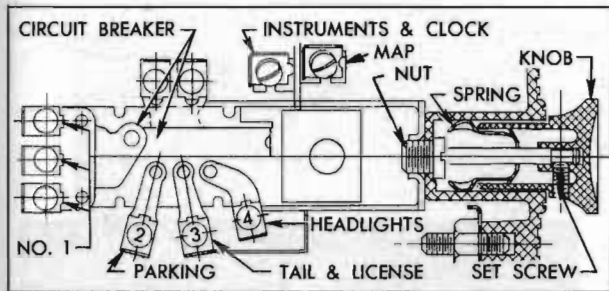

Figure 10-81—Lighting Switch
2. Loosen knob retaining set screw with a $\frac{3}{32}$ " Allen wrench and remove knob from rod. Remove switch mounting nut with Wrench J 1589 and remove switch from panel. See figure 10-81.